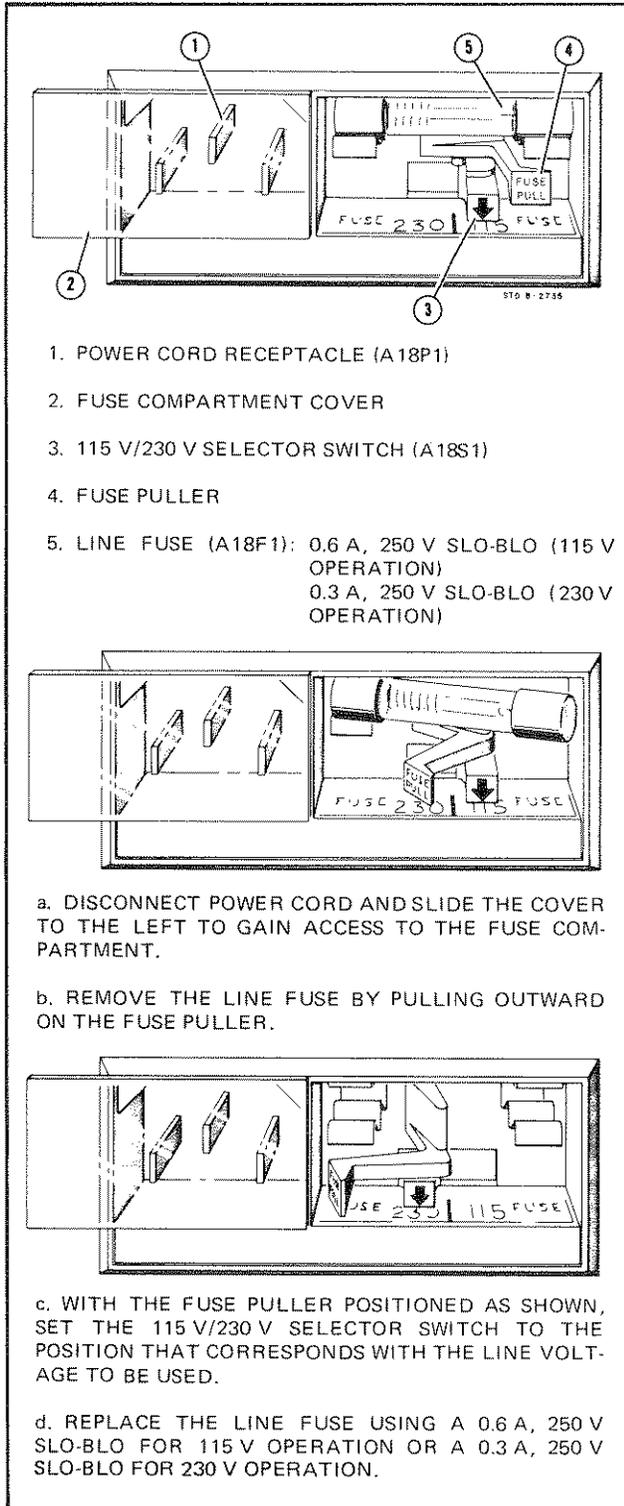

Figure 3-5. Power Input Module A, B and C.
- 17 Power Input Module (A18): Accepts power cord supplied with the instrument. Contains line fuse and 115 V/230 V selector switch (See Figure 3-5).
- a. Refer to Figure 3-5 and perform the following: